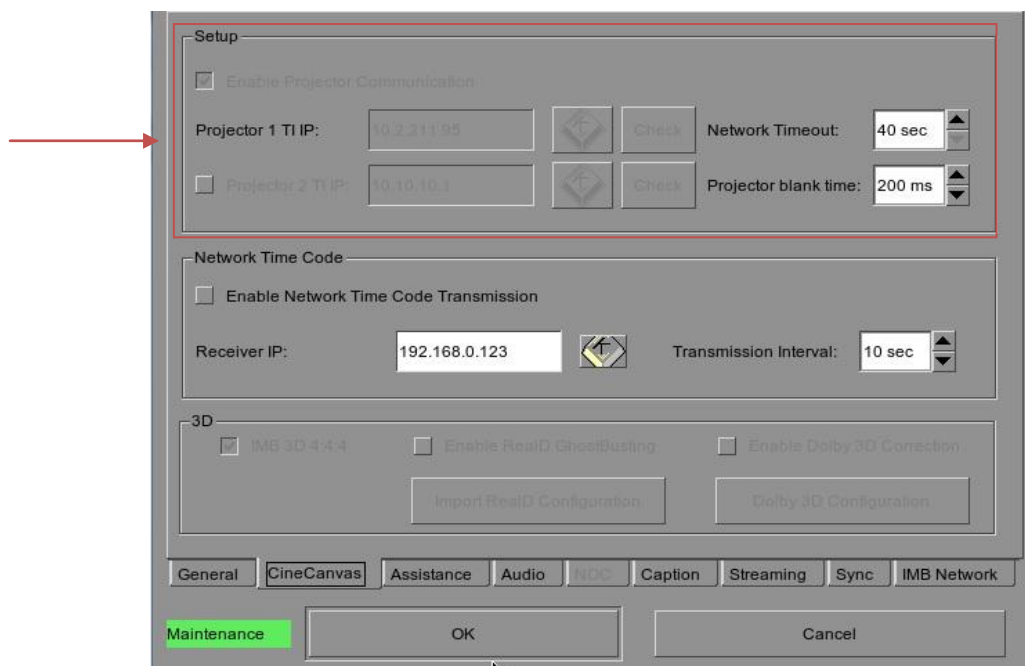

Figure 24 CineCanvas Page
- a. Log in to the "Marriage" account on the projector TPC. Select Menu→Service Setup→Marriage to start the Marriage wizard (see Figure 24). Click the [Next] button to proceed to the Marriage Checklist window.